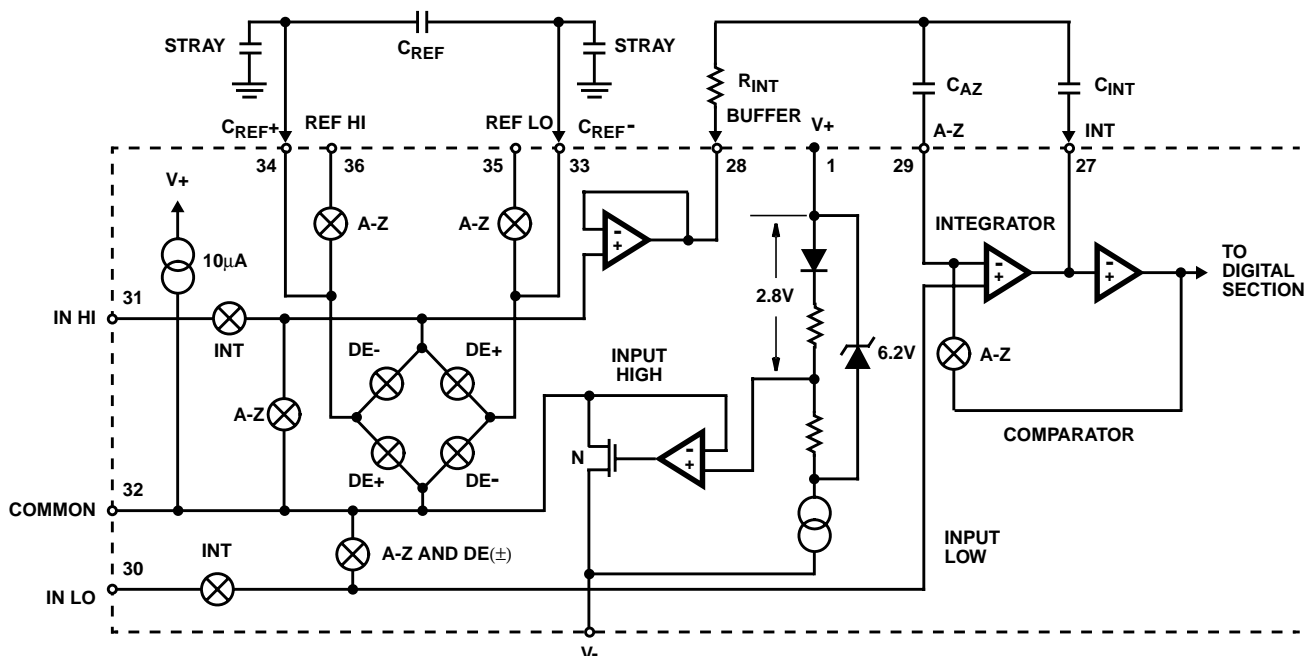

FIGURE 3. ANALOG SECTION OF WS7106 AND WS7107
Figure 3 shows the Analog Section for the WS7106 and WS7107. Each measurement cycle is divided into three phases. They are (1) auto-zero (A-Z), (2) signal integrate (INT) and (3) de-integrate (DE).